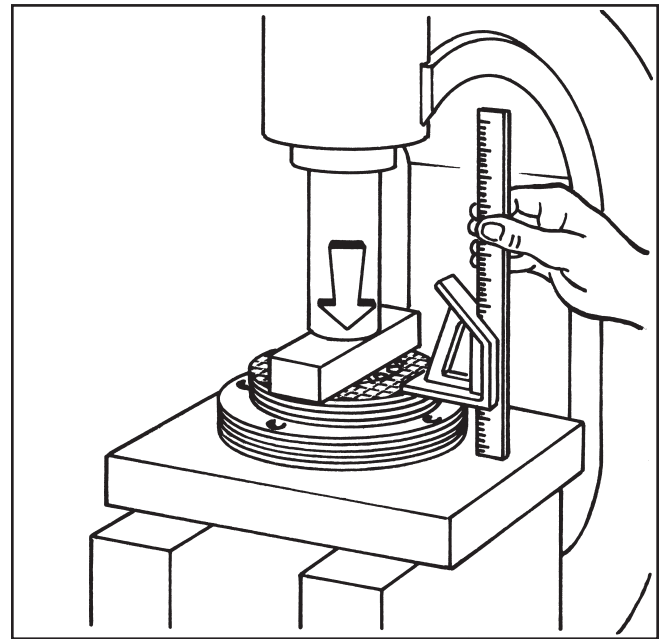

Figure 9.7 - Measuring Stack Height
1. Based on the Stack Arrangement shown on page 24, place the correct number of Friction Discs (#12) and Drive Plates (#13) or (#102) in an arbor press. Clamp and measure each stack height as shown in Figure 9.7.